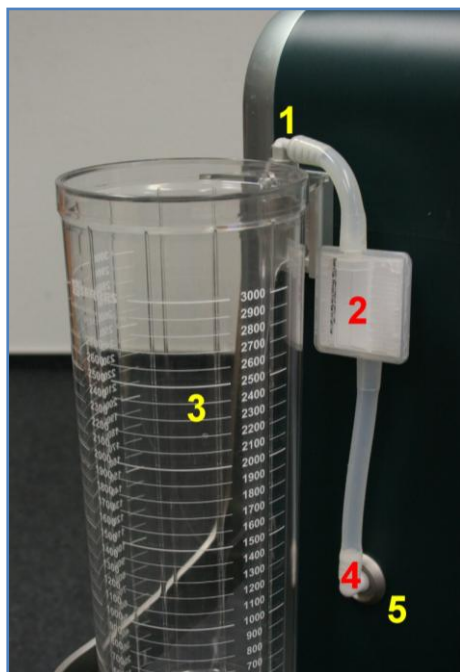

Fig. 4-11: Vacuum tubing with overflow barrier
The vacuum elbow connector (1) must have been attached to the suction container. The plug-in coupling connector (4) must have been connected to the respective suction port (5) (Fig. 4-11).